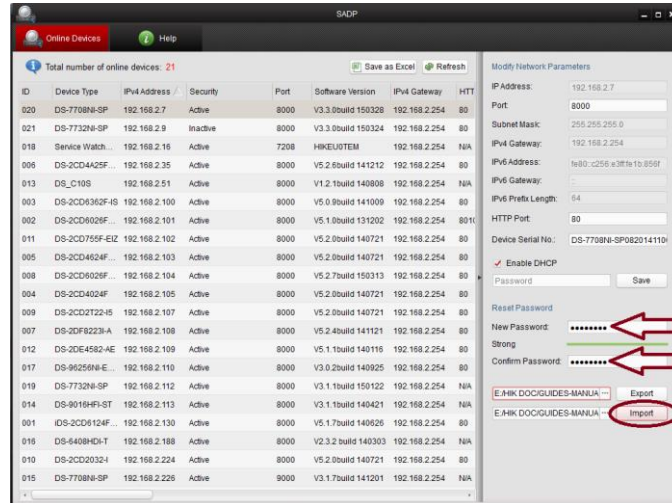

Figure 106 Set up a password by clicking **[New Password]** and **[Confirm Password]**, then click **[Import]**
10. After the password has been entered and confirmed, click **[Import]** (Figure 106) to import the “Encrypt.xml” file you received and saved from Hikvision Technical Support.